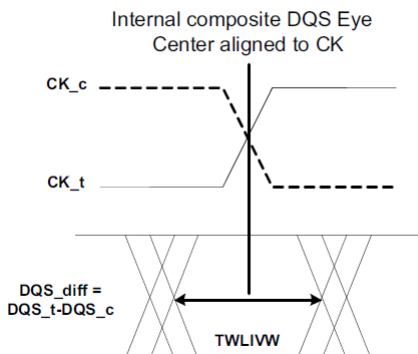

Figure 25. DQS_t/DQS_c to CK_t/CK_c timings at the DRAM pins referenced from the internal latch
- 28) t_{WLIWW} is defined in a similar manner to t_{dIVW_Total} , except that here it is a DQS input valid window with respect to CK. This would need to account for all VT (voltage and temperature) drift terms between CK and DQS within the DRAM that affect the write-leveling input valid window. The DQS input mask for timing with respect to CK is shown in Figure 25. The "total" mask (TWLIWW) defines the time the input signal must not encroach in order for the DQS input to be successfully captured by CK with a BER of lower than tbd. The mask is a receiver property and it is not the valid data-eye.